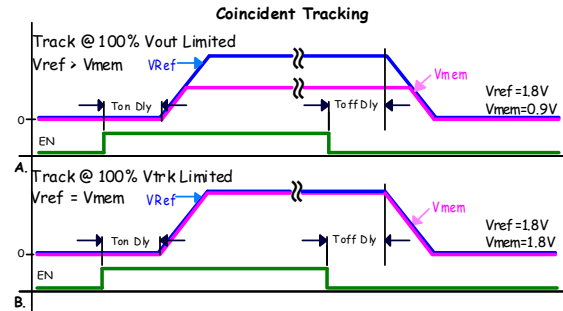

FIGURE 15. COINCIDENT TRACKING
The ZL9117M offers two modes of tracking: coincident and ratiometric. Figures 15 and 16 illustrate the output voltage waveform for the two tracking modes.
- a. Track at 100% VOUT limited. Member rail tracks the reference rail and stops when the member reaches its target voltage, Figure 15\(A\).
- b. Track at 100% VTRK limited. Member rail tracks the reference at the instantaneous voltage value applied to the VTRK pin, Figure 15\(B\).